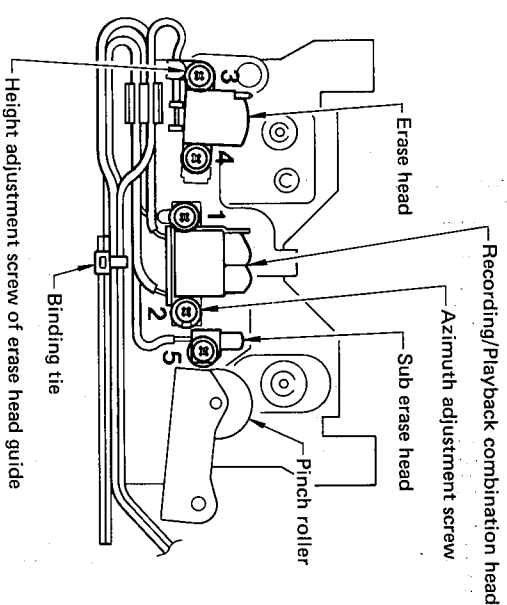

Fig. 8
- d. Remove screws ① and ② in fig. 8 and then replace the recording/playback combination head.
- e. Remove screws ③ and ④ in fig. 8 and then replace the erase head.
- f. Remove screw ⑤ in fig. 8 and then replace the sub erase head.